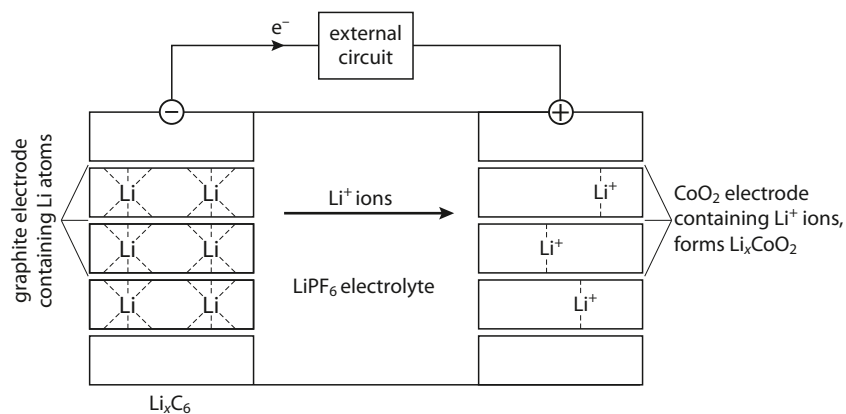

Figure C.37 A lithium-ion battery – lithium ions are exchanged between complexed lithium and graphite electrodes.
These batteries are commonly used as rechargeable cells in mobile telephones, laptop computers and high-energy usage portable electronic devices. They can generate higher voltages (around 3–4V) than NiCad batteries. Typically, the anode is made of carbon with lithium atoms inserted in the lattice, and the cathode is a metal oxide such as manganese(IV) oxide or cobalt(IV) oxide with Li^+ ions inserted in the lattice. The electrolyte is a complex lithium salt such as lithium hexafluorophosphate (LiPF_6) dissolved in an organic solvent (Figure C.37).